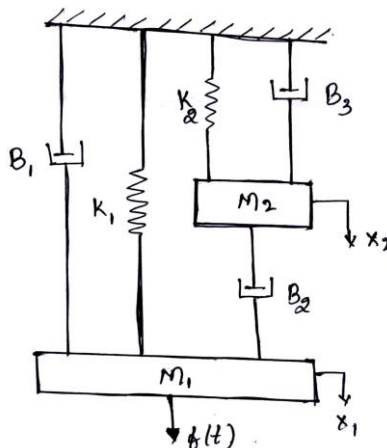

Fig.Q2(b)
- 2 a. A thermometer is dipped in a vessel containing a liquid at constant temperature " $\theta_i(t)$ " with thermal capacitance " C " and Thermal Resistance (R). Temperature indicated by thermometer is " $\theta_0(t)$ ". Develop a transfer function for the system. (10 Marks)
- b. Develop a transfer function $\frac{X_2(s)}{F(s)}$ for the Fig.Q2(b).